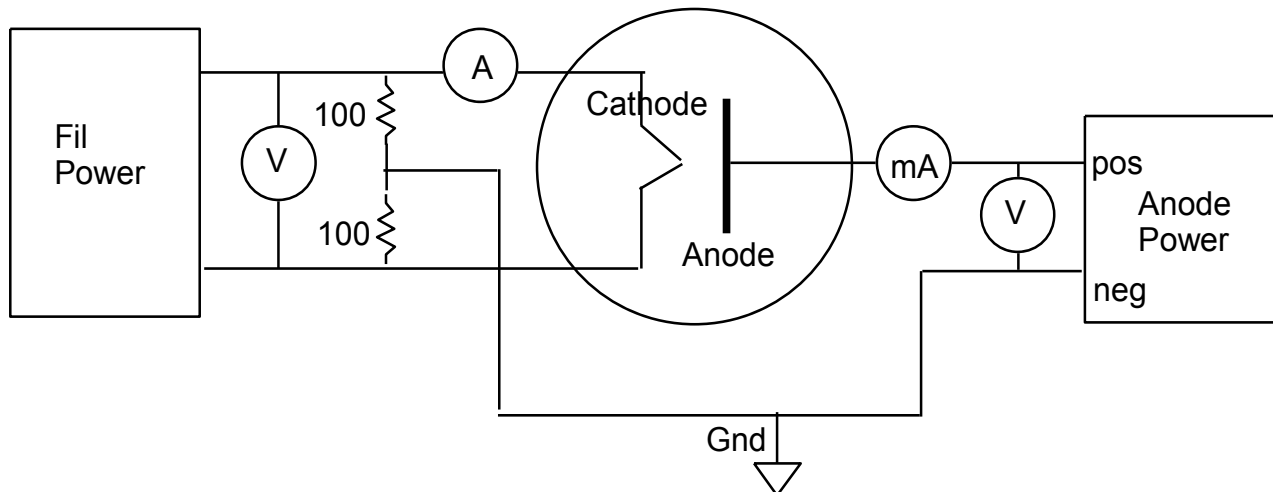

Figure 1. Wiring diagram for the thermionic emission experiment.
The circuit to be used is shown in Fig.1. Note that the vacuum tube used in this experiment, the GE FP-400, is an antique and difficult to replace. The filament current **must not exceed 2.5 A**.
1. Connect the circuit shown in Fig. 1. Ask the instructor verify the circuit before turning it on. Turn all knobs to zero, then turn the power switch(es) to on. Note the funky range buttons on the DVMs. Adjust the filament current to 2.0 A. You should see the tube filament (not your circuit wires) glowing.